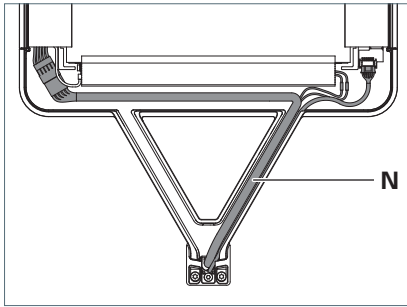

Fig. 8: Stowing the cables.
- ▶ Stow the cables **N** in the luminaire head as shown, see Fig. 8.